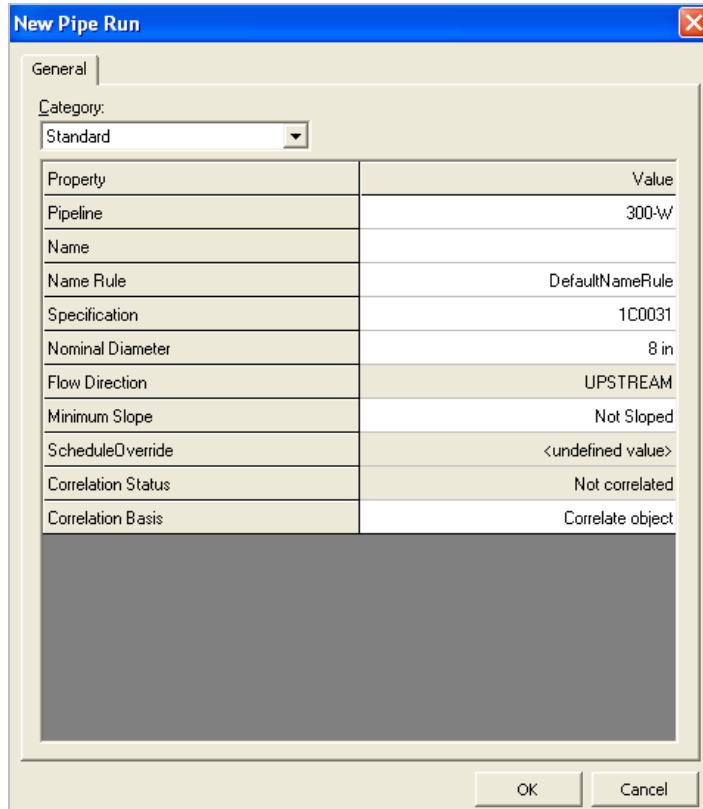

Figure 6: New Pipe Run Dialog Box
5. The **New Pipe Run** dialog box appears. Select **300-W** in the **Pipeline** field, as shown in Figure 6.